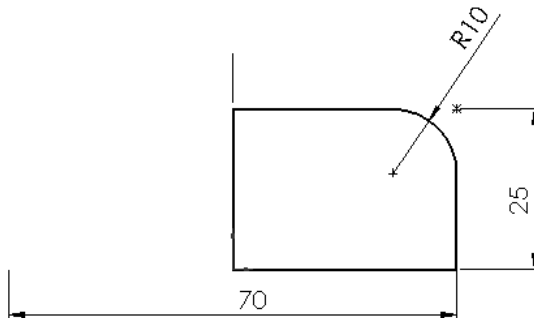

Figure 9-65 Sketch for the base feature
- Create a base feature of the model by revolving the sketch drawn on the **Front Plane**, refer to Figures 9-65 and 9-66.
- Invoke the **Revolved Boss/Base** tool and draw the sketch of the base feature on the **Front Plane**. Add the required relations and dimensions to it, as shown in Figure 9-65.